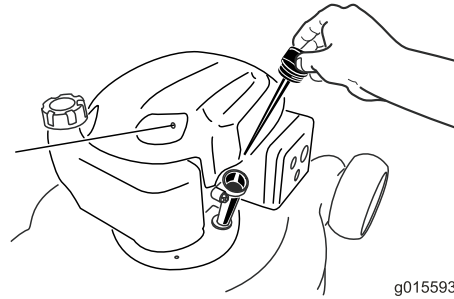

Figure 5
2. Remove the dipstick (Figure 5).